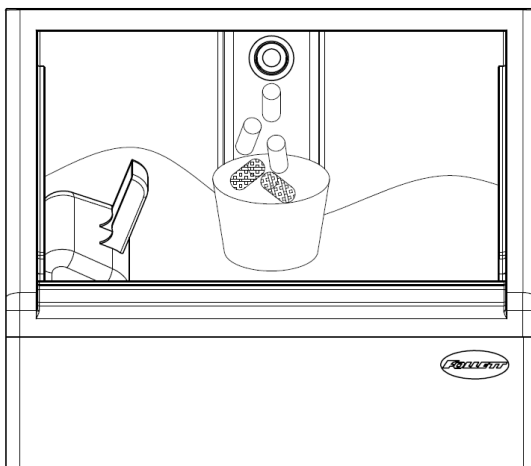

Fig. 14
- Place a sanitary (2 gallon or larger) container in bin to collect Sani-Sponges and ice for 10 minutes. Collect 5.5 lbs (3kg) of ice from unit. Discard ice and Sani-Sponges (Fig. 14).